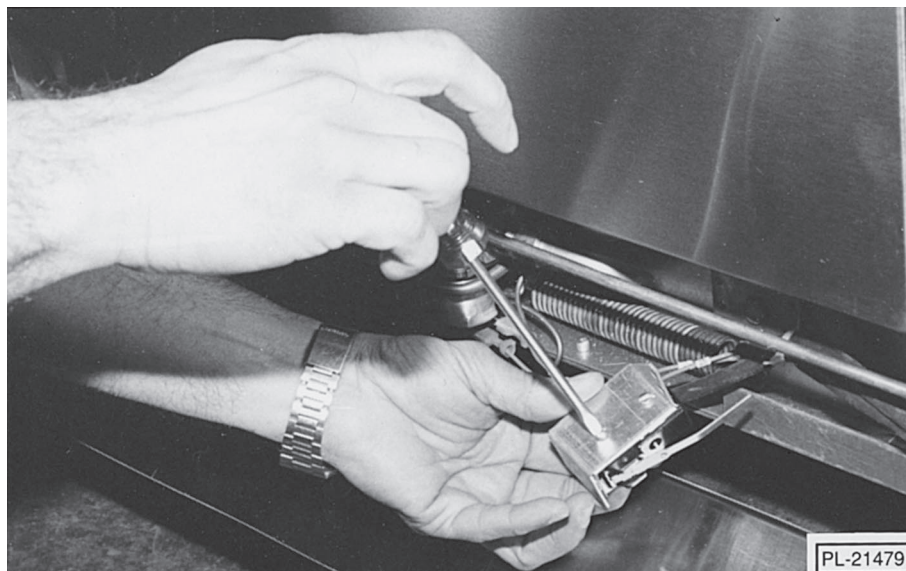

Fig. 49
4. Using a screwdriver, remove (2) screws and (2) nuts securing micro switch to housing (Fig. 49).